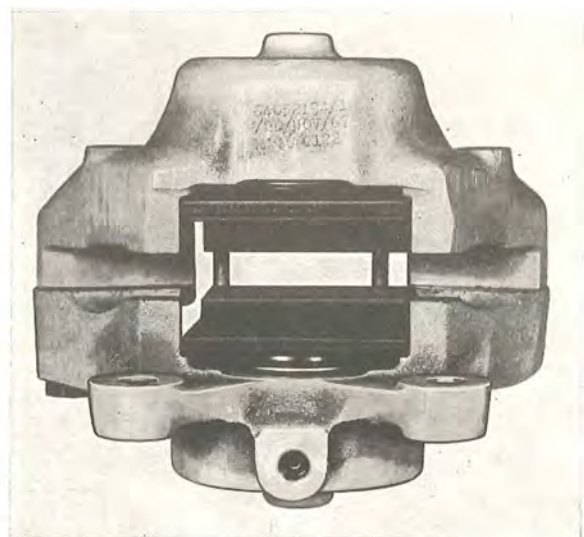

Fig. 5-30. Rear wheel brake caliper assembled
5. Fit the brake pads. Note that the recess in the brake pad, see Fig. 5-30, should be turned away from the venting nipple. Place one of the retaining pins in position and fit the damping springs and then the other retaining pin. Fit the hairpin-shaped retaining clips. Check that the pads are movable.